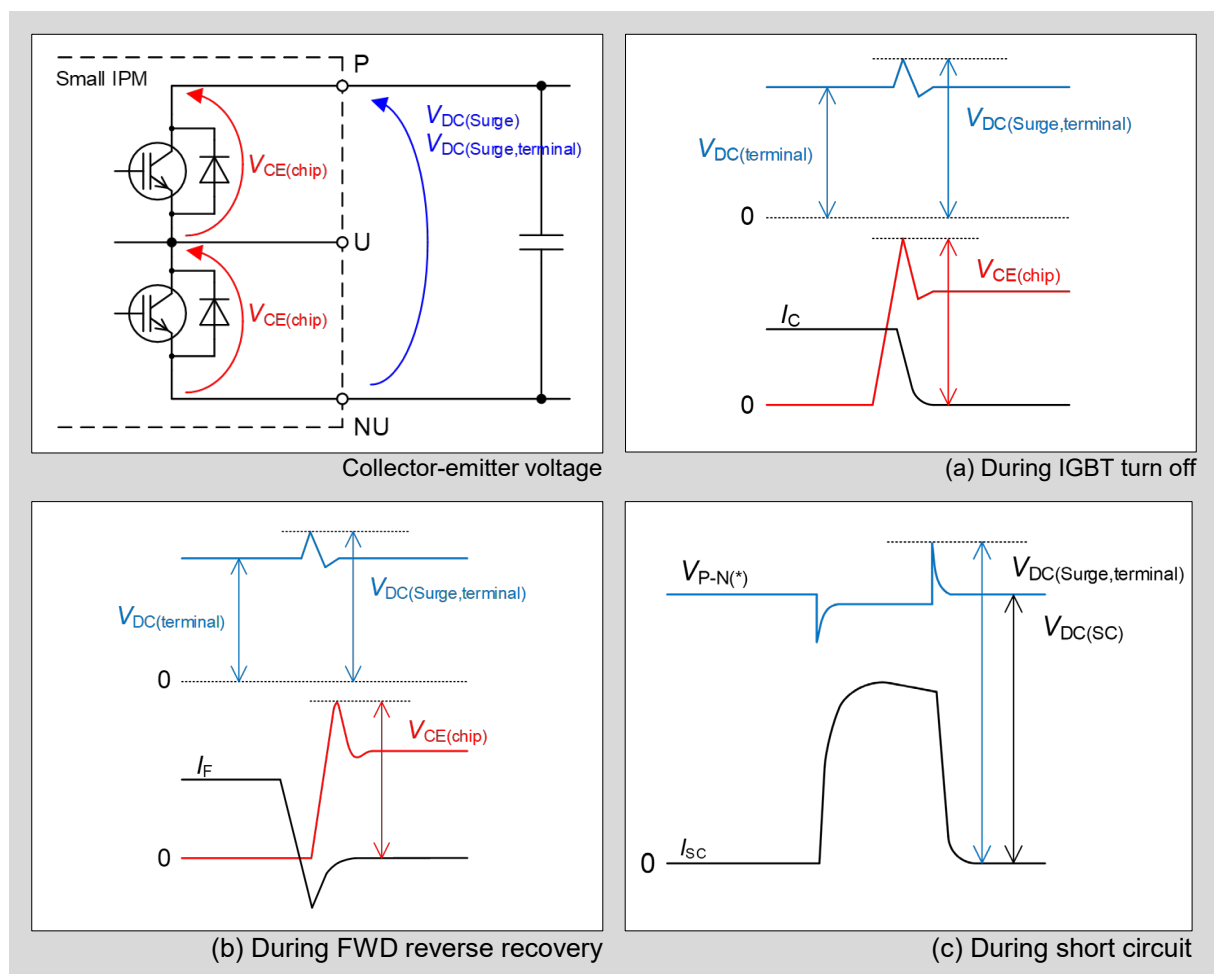

Fig.1-7 Waveforms and Collector-Emitter voltage during IGBT turn-off, FWD reverse recovery, and short-circuit
- Fig.1-7 shows the waveforms during short-circuit, IGBT turn-off and FWD reverse recovery. Since  $V_{DC(Surge,terminal)}$  is different in each situation, it is necessary to set  $V_{DC(terminal)}$  considering these situations.